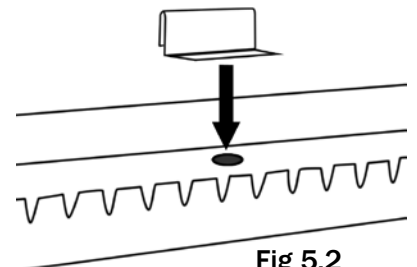

Fig 5.2
2. Drop the water diffuser (F) directly over the center of the disperser hole (Fig 5.2). The diffuser (F) will clip on the back edge of the disperser (E). Make certain the diffuser (F) is sitting directly over the hole (Fig 5.2).
3. During the mounting of the stone the plumbing tubing and connection may have moved behind the stone. Gently lift the bottom edge of the stone forward and pull the plumbing down so it is resting in the reservoir (L). The vinyl tubing should be inside the rounded bump out in the reservoir (L) so the weight of the stone does not pinch it closed.